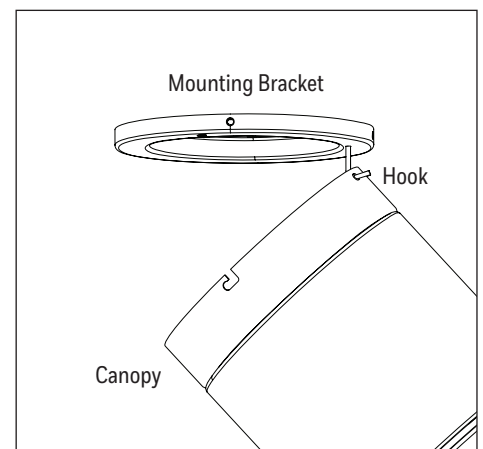

Figure 2.3
3. Lift the fan and place top of the canopy on the hook on the mounting bracket, temporarily leaving hands free for the wiring process (Figure 2.3).